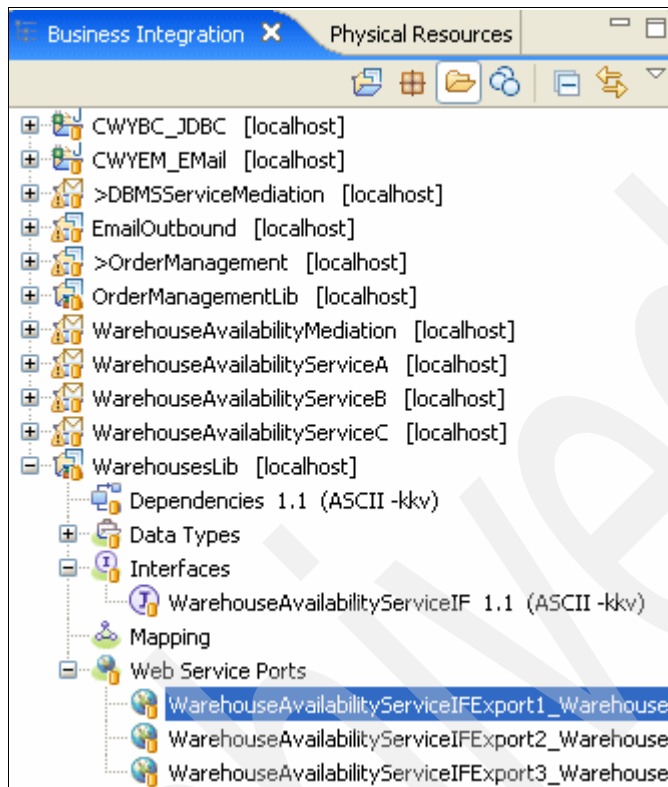

Figure 7-20 WarehousesLib Web service ports
2. Right-click the first port and select **Open With** → **WSDL Editor** as shown in Figure 7-20 on page 437.